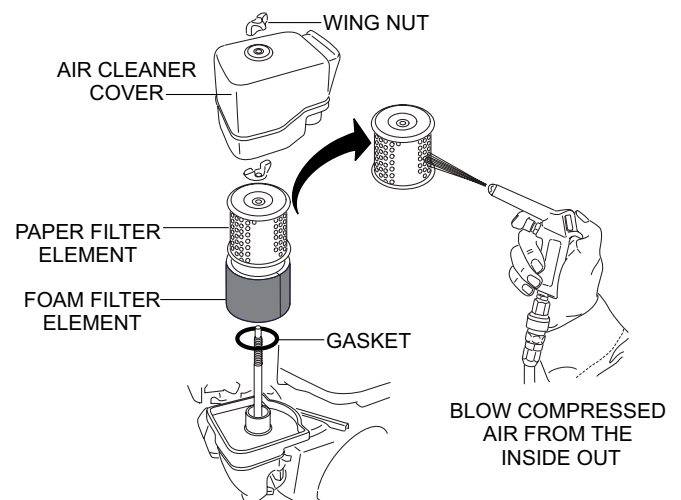
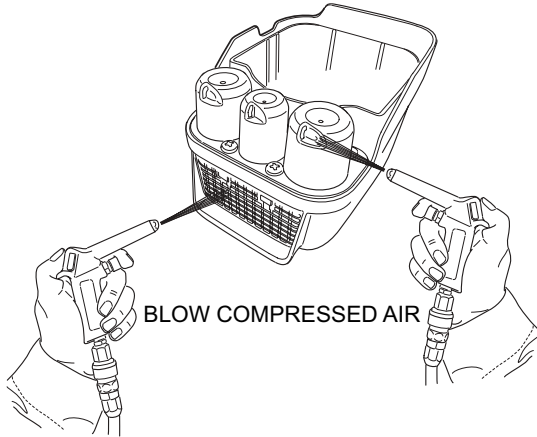

Figure 25. Engine Air Filter
Figure 26. Engine Air Filter Cover
The Honda GX160UT2SCM engine is equipped with a replaceable, high-density paper air cleaner element. See (Figure 25) for air cleaner components.
4. Blow compressed air (Figure 26) through the air cleaner cover as shown in (Figure 25). Clean inside of air filter cover with warm, soapy water or nonflammable solvent. Rinse and dry thoroughly.